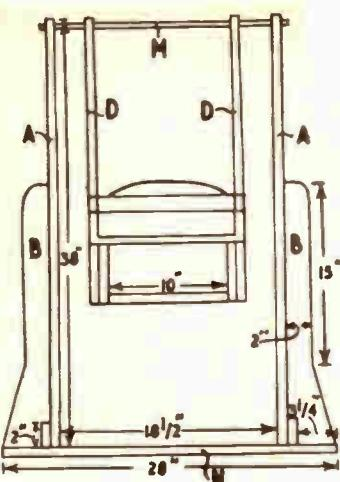

Fig. 1
Commence by making the uprights (A) and (B). Glue and screw them together, remembering that there are slots in pieces (B) to take the cross members (C). Next glue (C) in position and then the crosspiece (N) (Figs. 1 and 2).